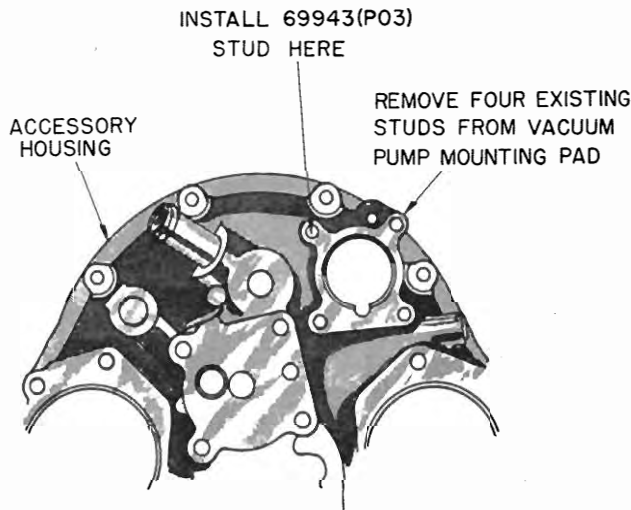

Figure 133 - Vacuum Pump Pad Stud Modification
3. Remove all four studs from the vacuum pump mounting pad and install one 69943 (PO3) stud to a driven height of .83 inches in the upper left hand hole; the other three holes are left as is. (See figure 133.)